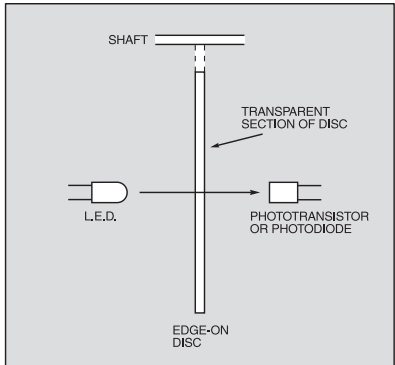

Fig.7.12. Sensing using a separate I.e.d. and photosensor.
- **Photodiode (or phototransistor) and I.e.d.** As shown in Fig.7.12, the I.e.d. and photosensor are mounted on opposite sides of the encoding disc that has alternating transparent and opaque areas. The photosensor will detect light shining through the transparent area.